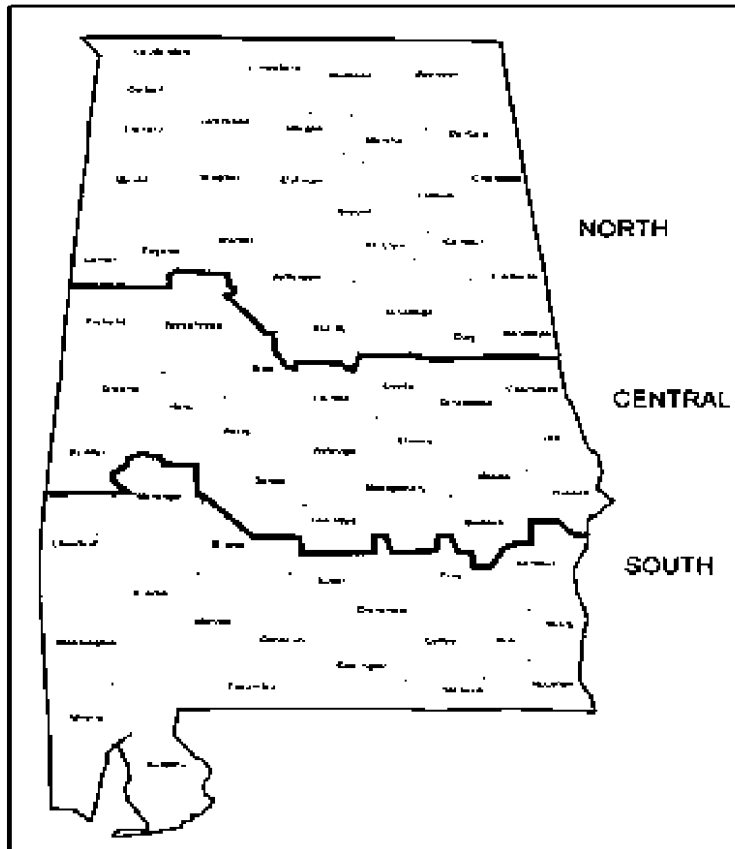

Figure SOD-1 Geographical Areas for Species Adaptation in Alabama
- Use plants specified in the plan. If not specified, select a variety using Figure SOD-1 and Tables SOD-1 and SOD-2.